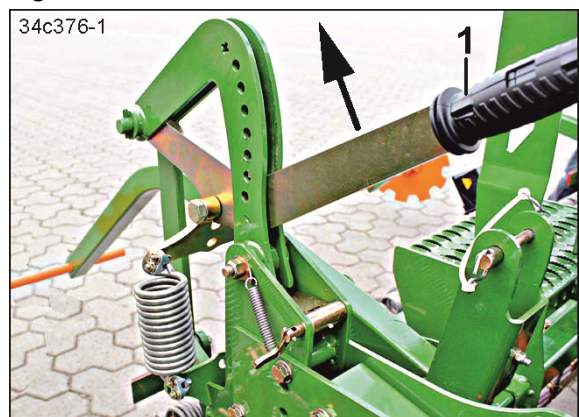

Fig. 190
4. Pull the lever (Fig. 190/1) in the direction shown by the arrow.